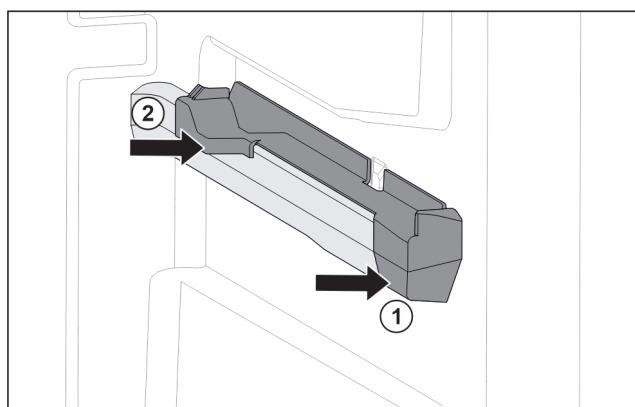

Fig. 126 Attachment on the right moulded rib
- ▶ Position attachment on moulded rib at the front. Fig. 126 (1)
- ▶ Press on attachment at the back. Fig. 126 (2)